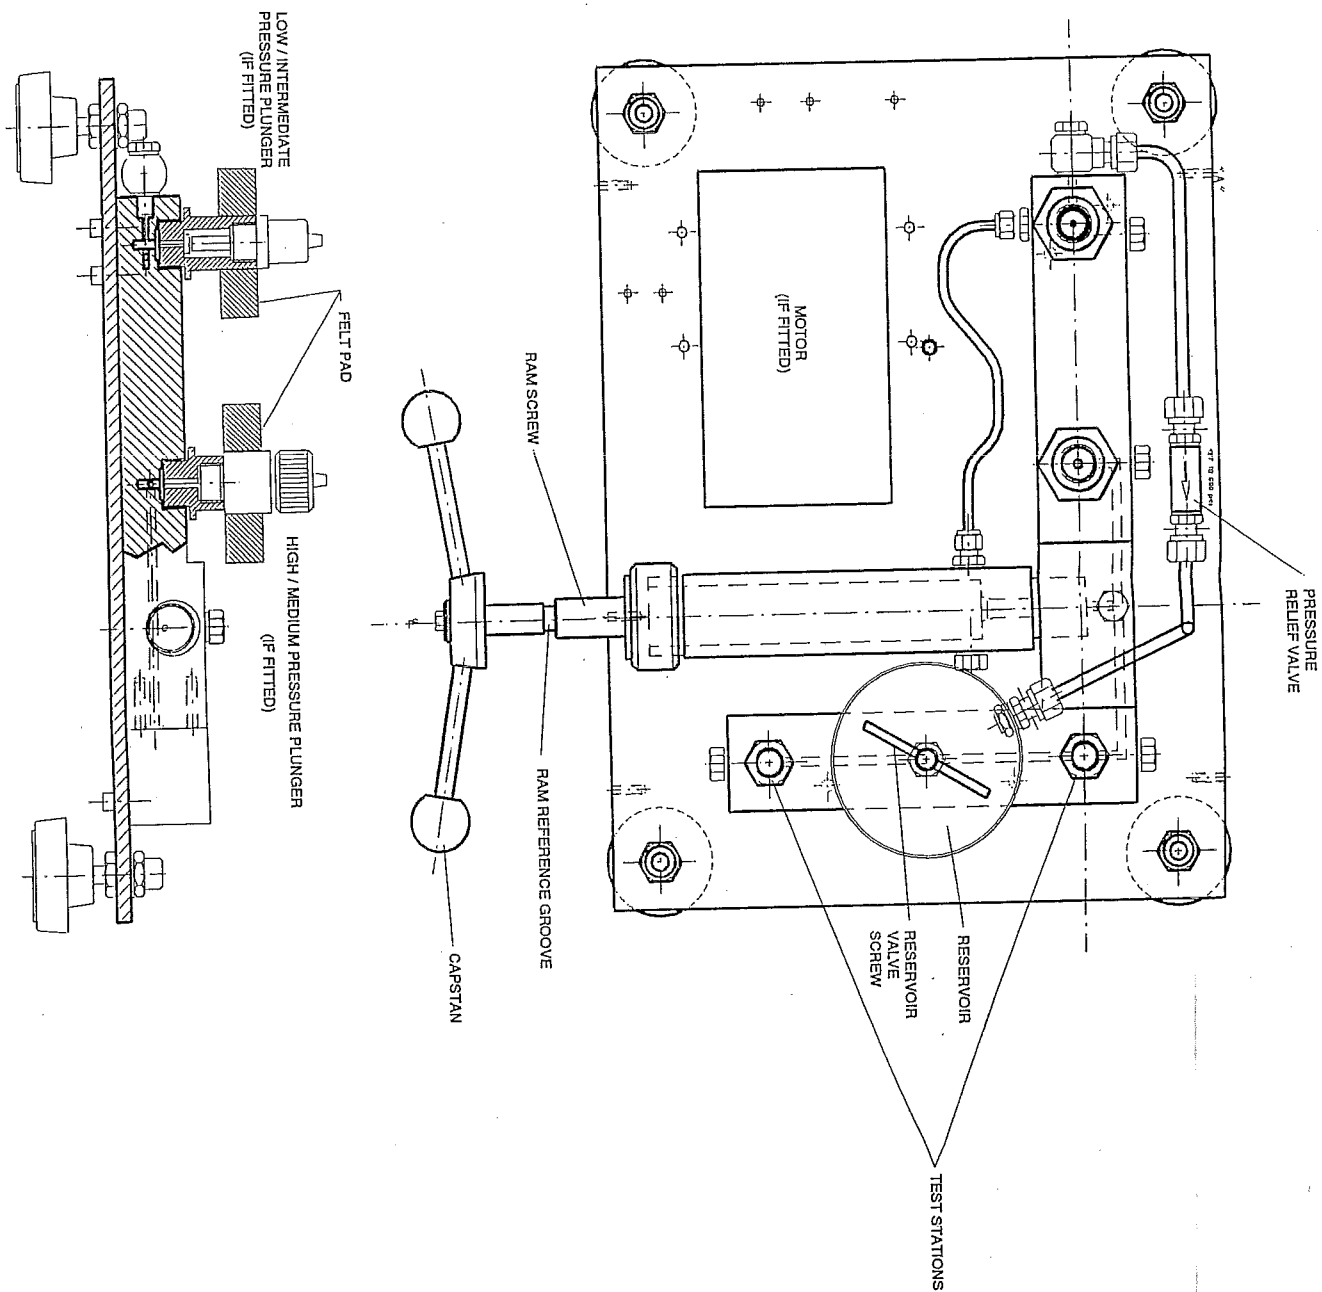

Fig 1B Internal View of 9000 Series Tester
2 A DWT (Fig 1A and Fig 1B) comprises base plate/manifold with either one or two piston assemblies (depending on the pressure range of the particular model), two test stations (for instrument mounting), a fluid reservoir, and a ram screw pressure generating mechanism. Standard accessories provided with the DWT are listed in Table 1 followed by optional accessories which are also available. Full information is provided to enable corrections to be made for pressure, temperature and gravity variations.
- 2 A DWT (Fig 1A and Fig 1B) comprises base plate/manifold with either one or two piston assemblies (depending on the pressure range of the particular model), two test stations (for instrument mounting), a fluid reservoir, and a ram screw pressure generating mechanism. Standard accessories provided with the DWT are listed in Table 1 followed by optional accessories which are also available. Full information is provided to enable corrections to be made for pressure, temperature and gravity variations.